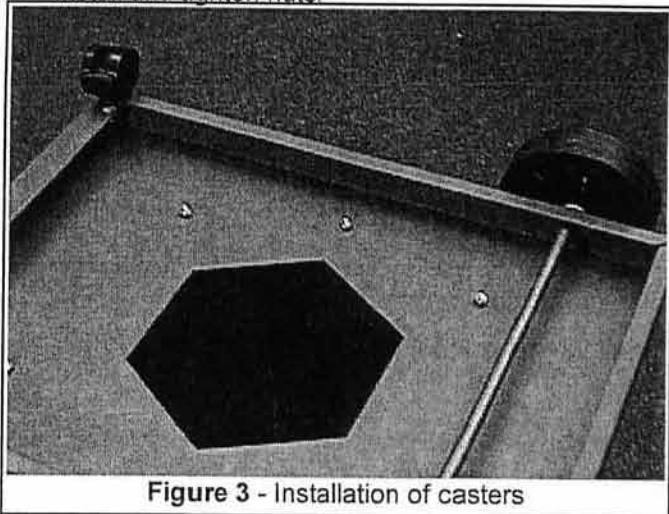

Figure 3 - Installation of casters
- 4) Assemble casters on base using (2) 5/16 flat washers - one on each side of base plate (Figure 3). Install and tighten nuts.